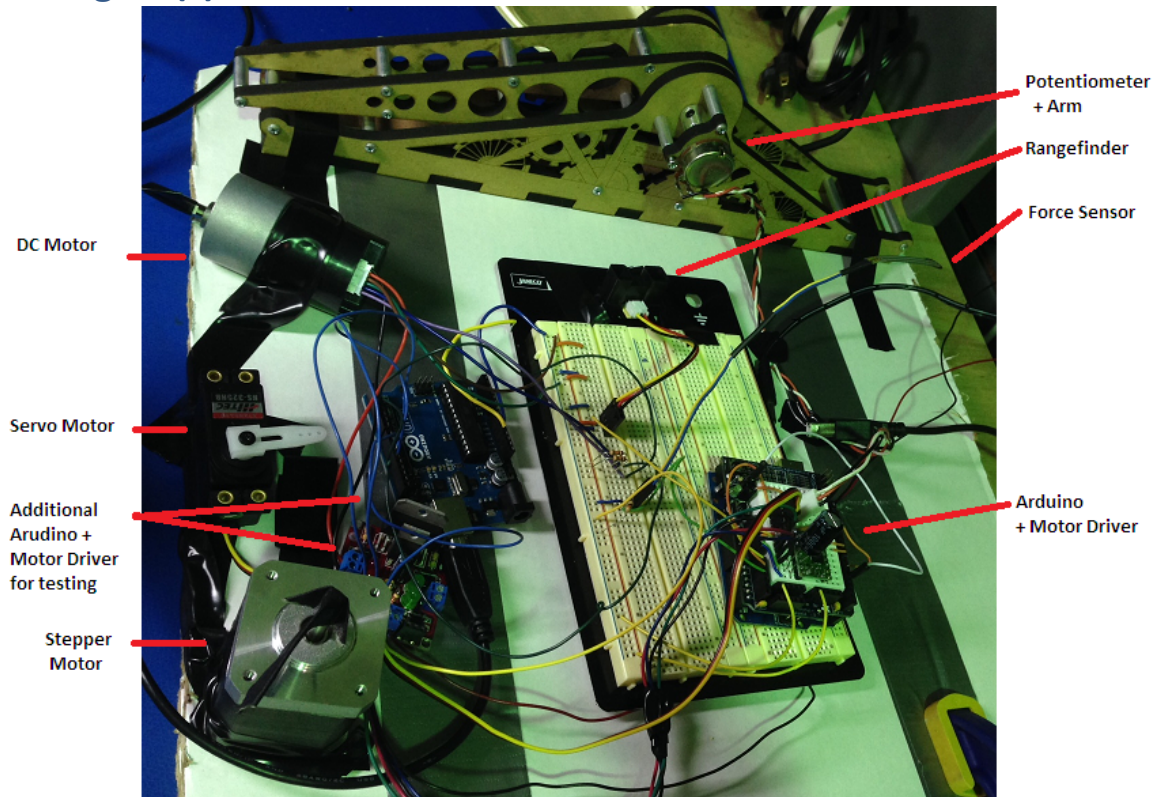

Figure 1. Circuit board for task 6
This report gives a brief description of our team progress along with my individual contribution so far towards the MRSD project and Motor Control lab assignment (Task 6). The objectives in this lab are: reading the sensors data and integrates it to motors such as servo, DC and stepper motor. Figure 1 is the full view of our team's circuit, which consists: (1) Arduino UNO as a main controller board; (2) Infra Red Sharp GPD12 Range Finder,(3) potentiometer that is connected with an arm made in acrylic, (4) force sensor as sensors; and (5) DC motor, (6) servo motor, and (7) stepper motor for the actuators.